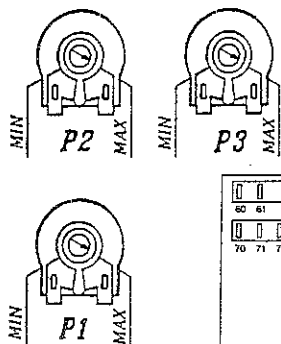

Fig. 24
d. Adjust the potentiometer P1 on the PCB (fig. 24) in the control panel until the required burner pressure is obtained (Anticlockwise to reduce the pressure).